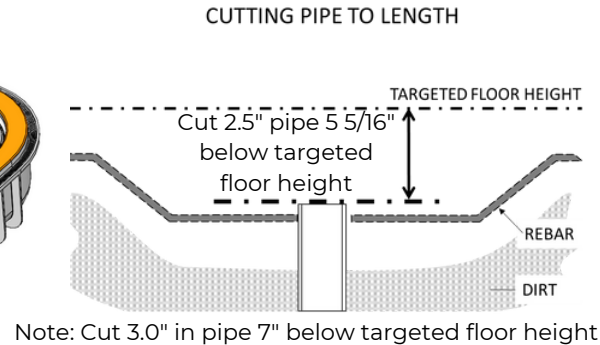

Figure 7
- a. Finalize Height:** From the string line set in Step 1, measure down the pool depth and add 5 5/16" for 2.5" pipe or 7" for the 3" pipe. (See Figure 7). Cut riser to this height. Note: Drain will mount to 3" pipe with a coupler on outside of drain port.